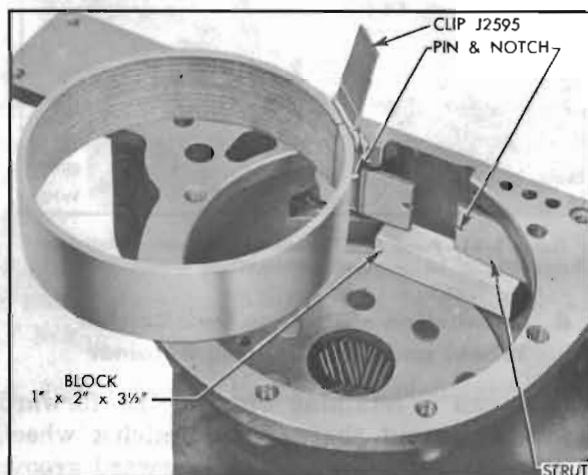

Figure 5-93—Installation of Low Band and Struts
3. Compress ends of low band with Band Installing Clip J 2595 (fig. 5-93). NOTE: A used band must be reinstalled in original position—heaviest wear will be at anchor end. A new band can be installed either way.